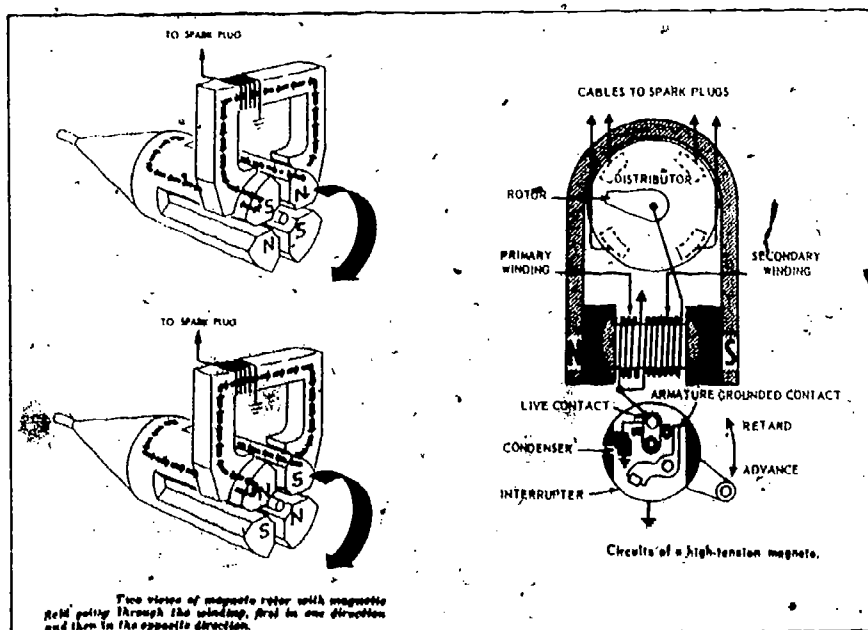

Fig 2-14. Schematic diagrams of a magneto.
- (2) Magneto ignition (fig 2-14). Except for the spark plugs and the high-tension leads to them, the magneto is a self-contained unit. It provides the current for the primary circuit and steps up the voltage for the secondary circuit. It has its own generator and other components which function the same as similar components of the battery ignition system. During cranking and at low engine rpm, the magneto does not turn fast enough to generate primary voltage. To increase the magneto rpm without affecting the ignition timing, an impulse coupling is installed between the engine drive gear and the magneto. The impulse coupling consists of a spring and ratchet drive. As the engine is cranked, the spring is wound tightly and at the proper time the tension is released and the magneto shaft is turned with sufficient speed by spring tension to produce a spark in the combustion chamber. The impulse coupling will lock out at approximately 300 rpm and turn continuously at engine speed.